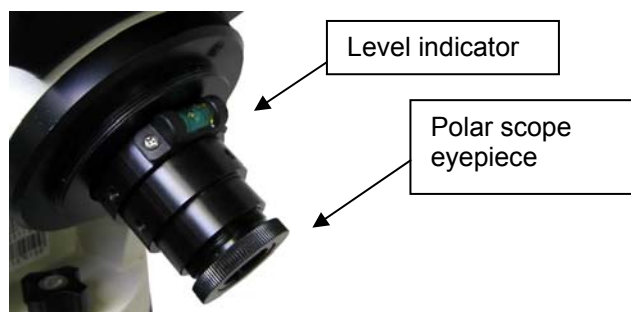

Figure 20. Polar scope with bubble level indicator
- (3) Use the ▲ or ▼ key to turn the DEC axle to unblock the Polar Scope view.
- (4) Adjust polar scope eyepiece shown in Figure 20 to bring the polar scope dial in focus.